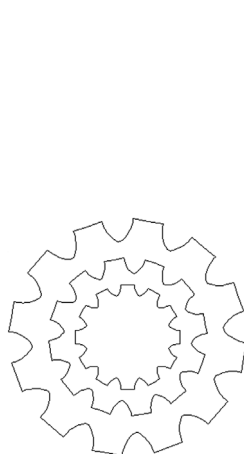

FIGURE 24.31 Drill bit, Step 3.
- Step 3.** Carefully place the three profiles one on top of another using their center points and rotate profiles 2 and 3 (the medium and the largest ones) 10° and 20°, respectively, as seen in Fig. 24.31.